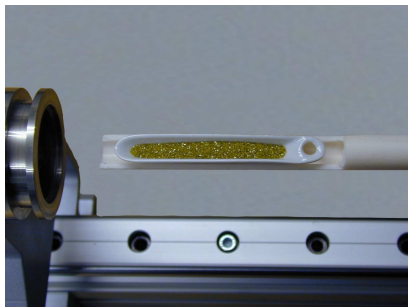

Fig. 6: Ceramic dish with diamond sample in sample holder
- Load a ceramic dish with a diamond sample onto the sample holder (Fig. 6).
- Move the furnace to the position shown in Fig. 6. The Argon flow can be decreased now to the value of the beginning .